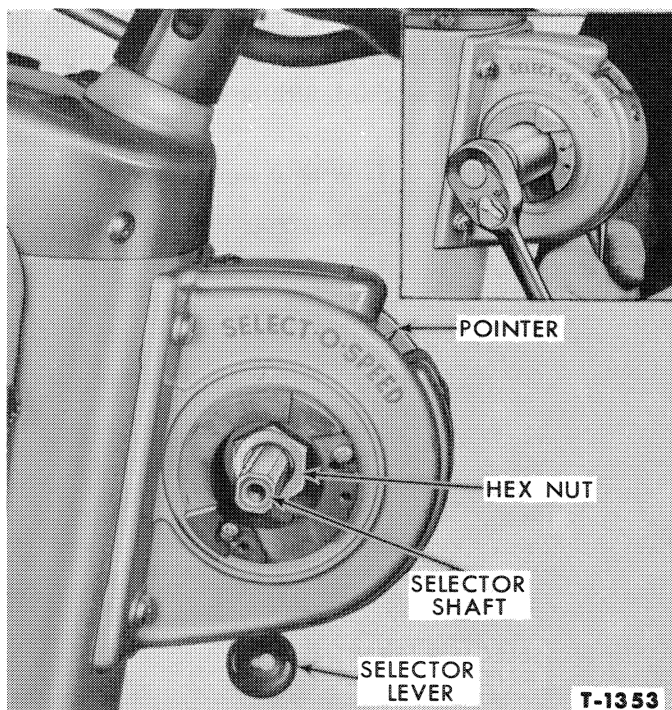

Figure 74—Alignment of the Selector Assembly
1. Remove the selector shaft left cover to expose the shaft and hex nut as shown in Figure 74.
securely in the detent, as shown in the insert, Figure 74.